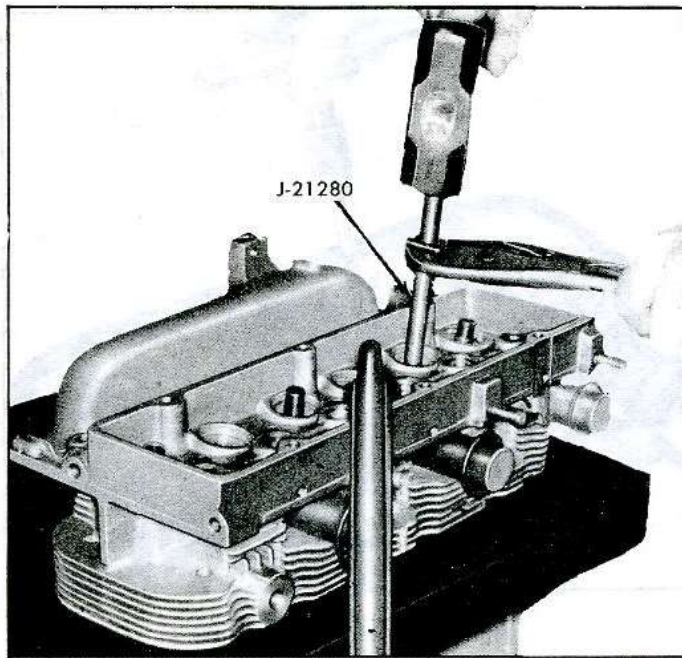

Fig. 88—Removing Valve Guide
1. Remove worn guides using the J-21280 Remover and a hammer (2 lb. minimum). Drive valve guide from the spring seat side (fig. 88) so that the guide will exit on the combustion chamber side of the cylinder head.